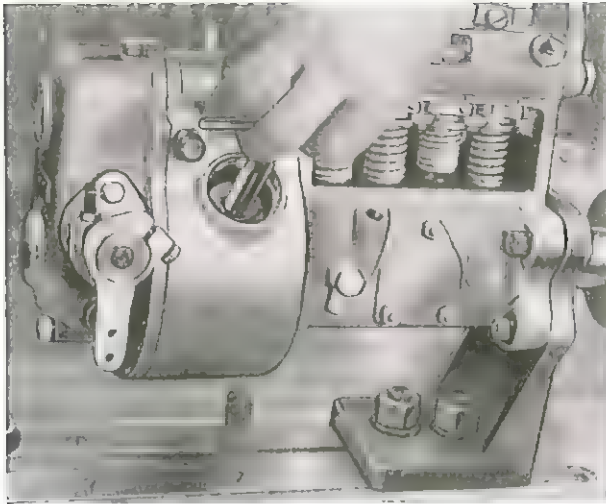

Fig. 32. - Adjusting the fly-weight opposing springs using wrench A 527008.
Should the control lever (L) reach the end of its run and the control rod not complete its $0.472''$ (12 mm) stroke with a sufficient margin of safety, remove, using special screwdriver **A 12114** the plug of the cover opening which allows reaching the fly-weights and adjust using wrench **A 527008** (fig. 32) the load on governor springs (M) by turning the retaining collars down. The same operation must be carried out when the control rod is not brought back towards the stop in spite of speed rate increasing.